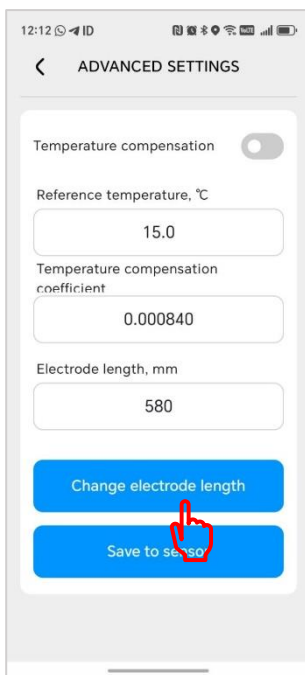

Fig. 5.22
- Click on the "Change Electrode Length" button (Fig. 5.22)